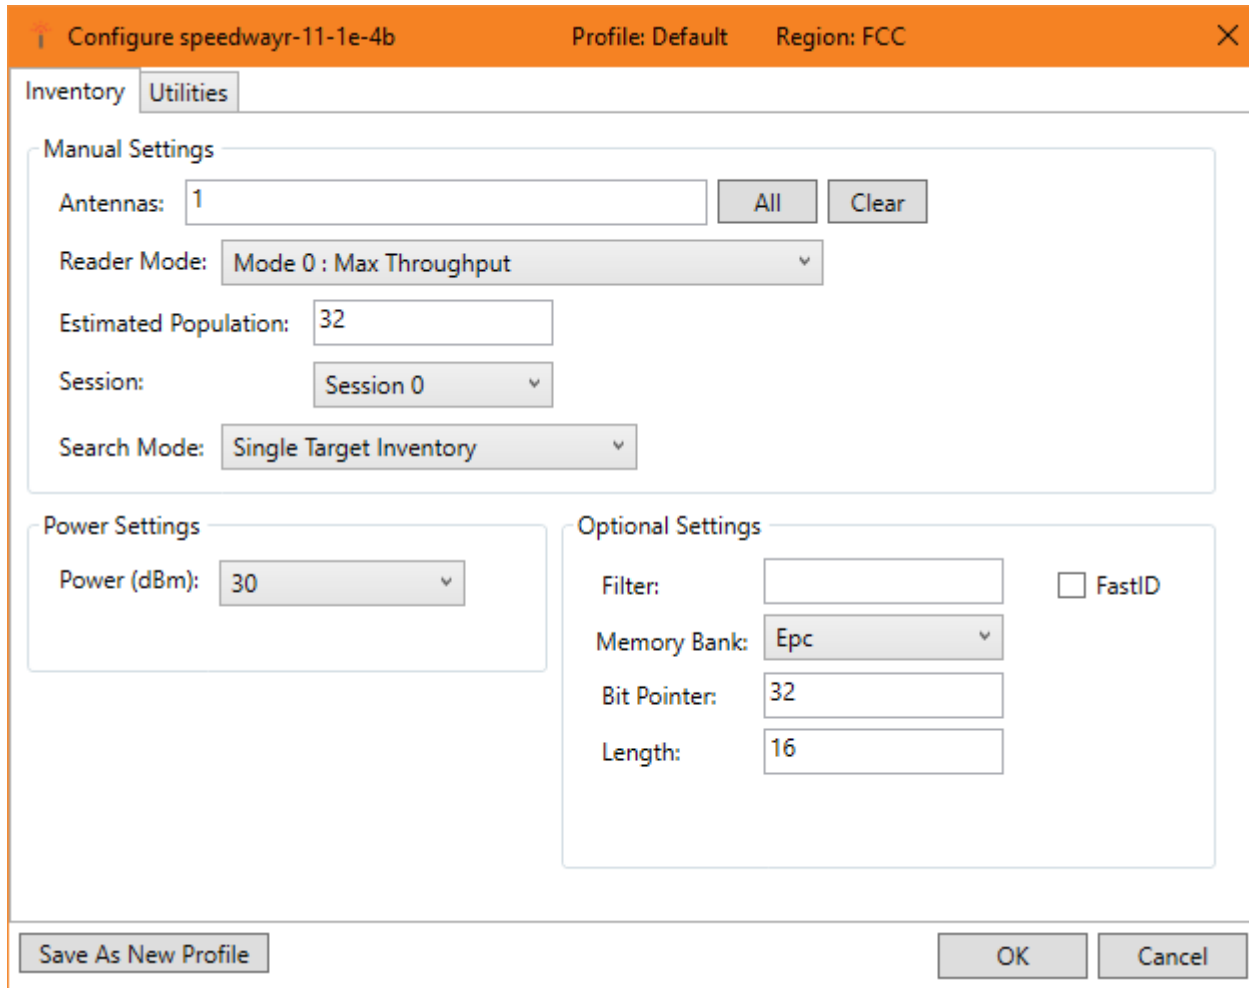

Figure 6.4 ItemTest Reader Settings Screen
4. In the **Reader Settings** dialog box, click **Configure**, The page shown in Figure 6.4 displays.
10. Select the desired transmit power under **Power Settings**. Then select **OK**. For more information, see Figure 6.4.